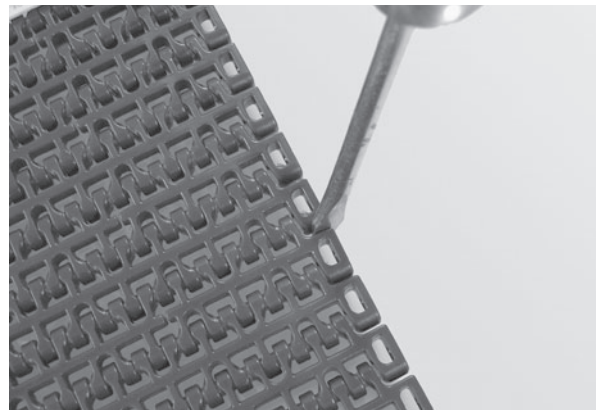

Figure 51
1. Place the edge of a flat head screwdriver between the two belt links and turn clockwise (**Figure 51**).